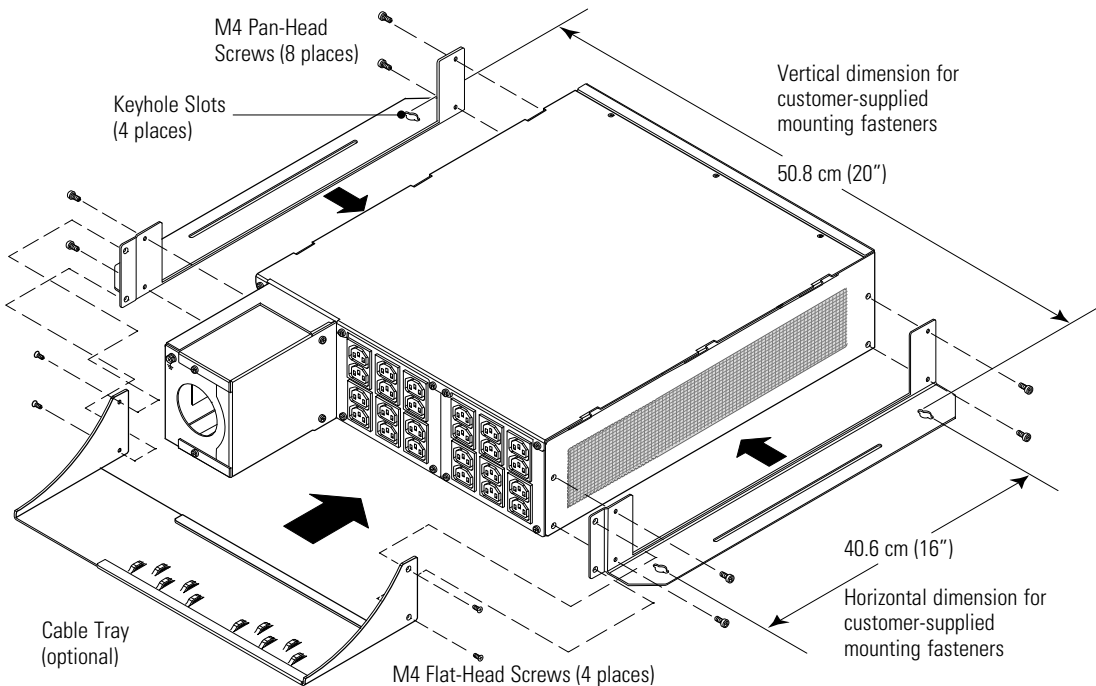

Figure 2. Wallmount Installation (Hardwired Unit Shown)
2. Locate an area on the wall suitable for mounting the RPM-3U/3Ui. See Figure 2 to mark the locations on the wall for the customer-supplied mounting fasteners.
3. Secure the two wallmount brackets to the RPM-3U/3Ui with the supplied eight M4 pan-head screws (see Figure 2).
4. (Optional) Secure the cable tray to the wallmount brackets with the supplied four M4 flat-head screws (see Figure 2).